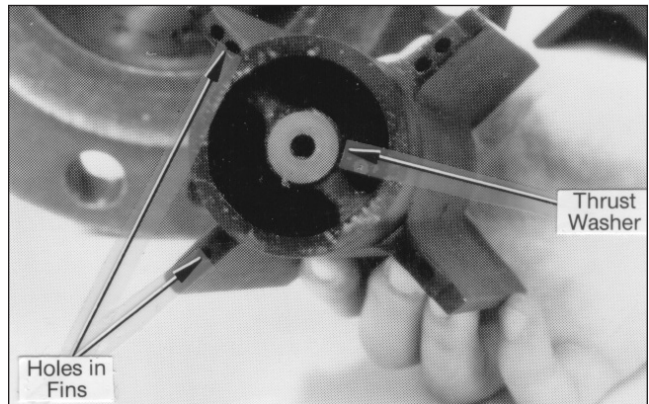

Figure 10
9. Inspect the holes in the downstream stator fins on the thrust bearing end, Figure 10, to make certain they are open and the inside of the stator is clean. Inspect thrust washer for signs of roughness, grooves, or cracks.
In some bidirectional turbine meters, two downstream stators are used. Therefore, the holes will be located as shown in Figure 10.